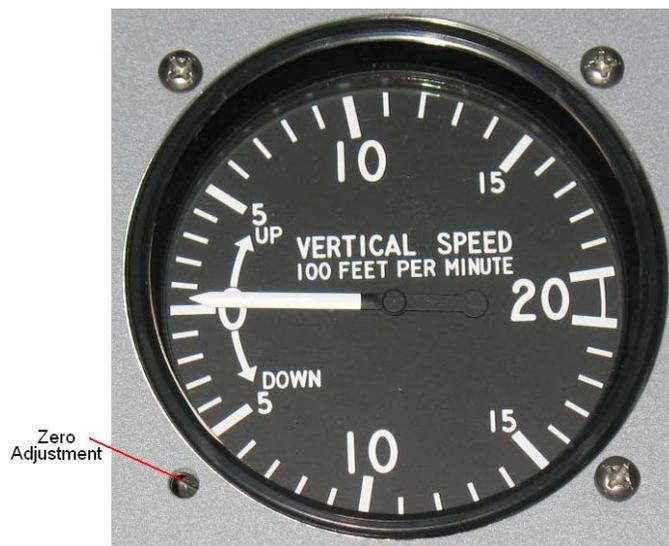

Figure 34-21 Vertical Speed Indicator
1. Referring to Figure 34-21 above, set VSI zero indication with adjustment screw shown.